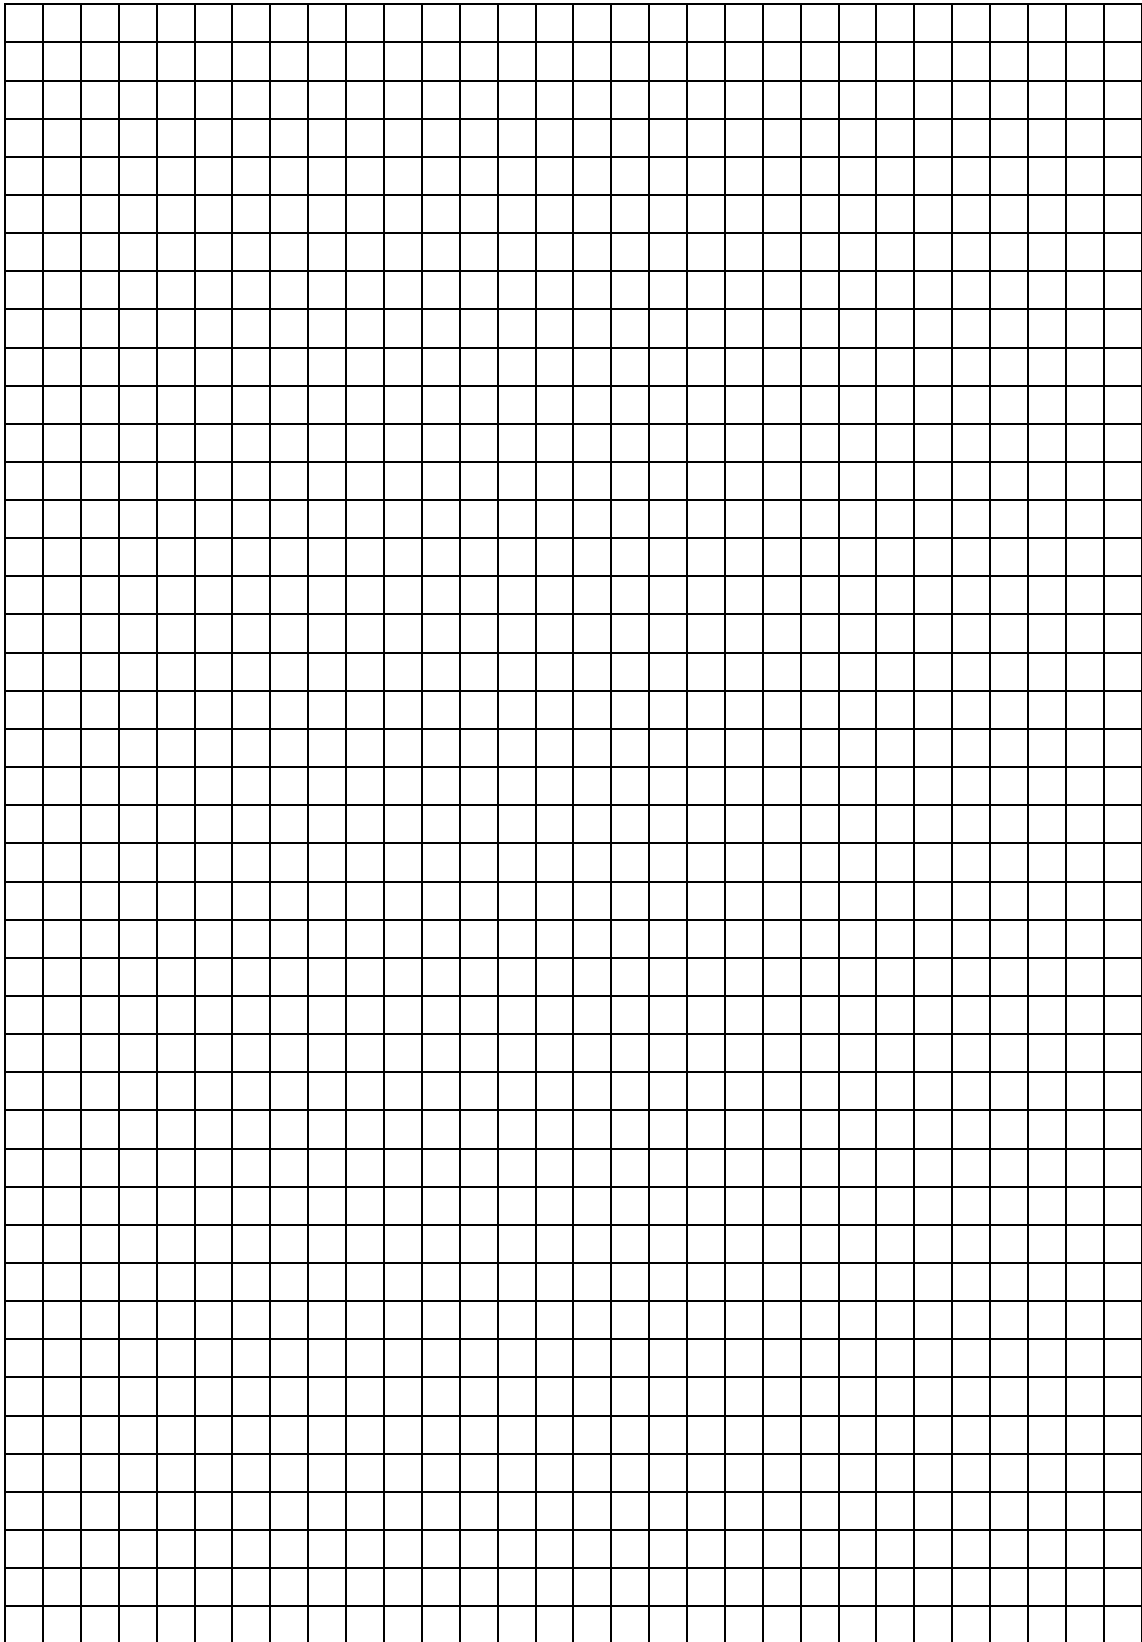

Figure 4, Post Alignment
5. Free standing posts should be approximately 2.7m with 75cm in the ground. Angle the posts outwards from the direction of pull (Figure 4).